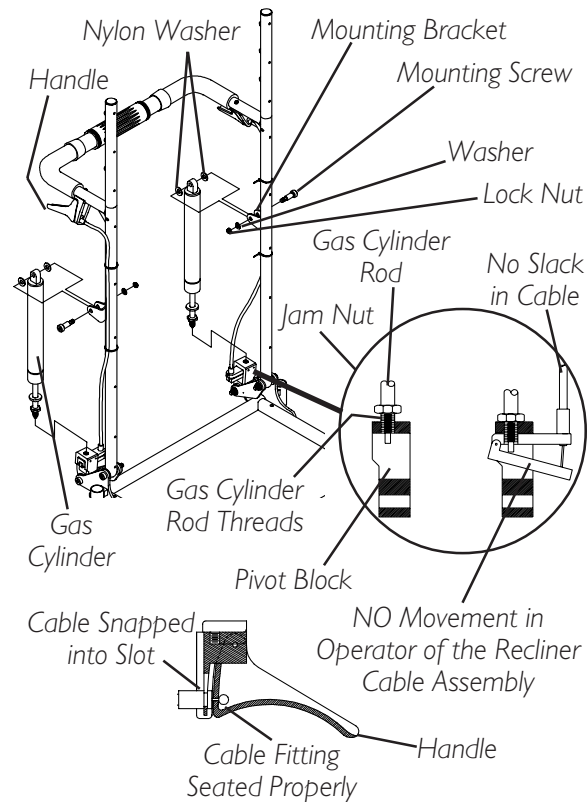

FIGURE 4 - REPLACING/ADJUSTING GAS CYLINDERS
REPLACING/ADJUSTING GAS CYLINDERS (FIGURE 4)
4. Screw cylinder rod of the NEW gas cylinder into the pivot block until the threads of the cylinder rod are flush with inside of pivot block (FIGURE 4).
- A. Finger tighten the jam nut on the rod of the gas cylinder until it bottoms out on the rod of the cylinder (FIGURE 4).